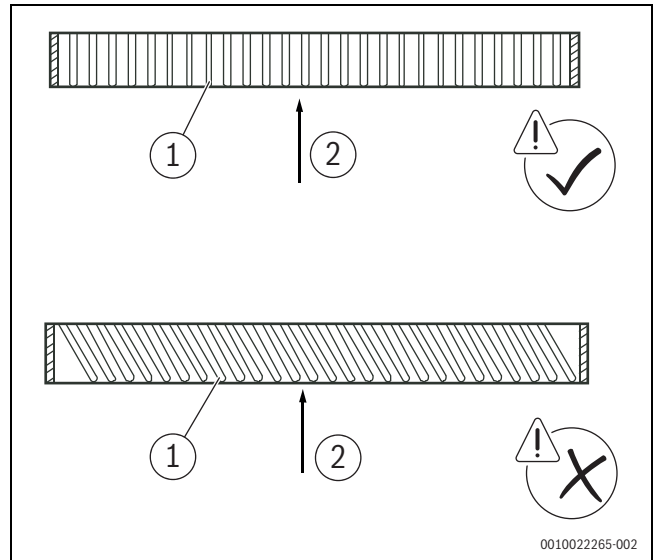

Fig. 7
- Make sure the air inlet grilles are angled such that they are parallel to the direction of the air inlet. There should be no angle between the air inlet grille and the direction of the air inlet, otherwise the noise level will increase (→ figure 7).